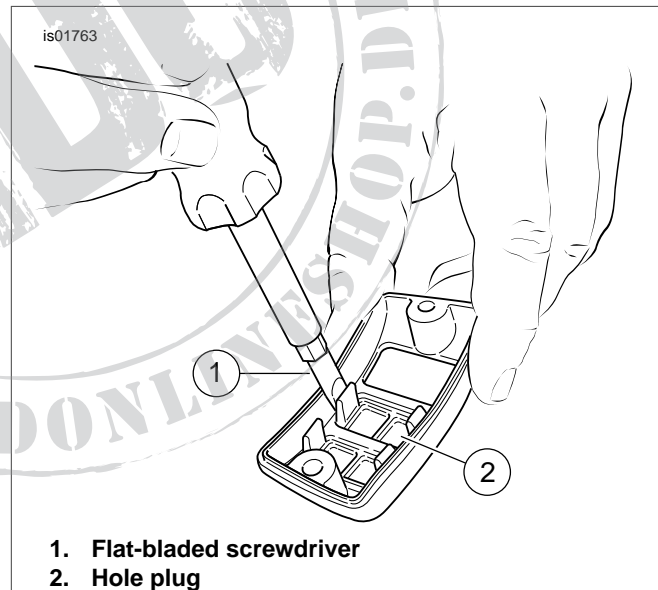

Figure 5. Remove/Reposition Hole Plug
8. See Figure 5. Using a flat-bladed screwdriver (1), carefully compress the tab and remove the hole plug (2) from the housing cover. If relocating the hole plug, snap the plug in the desired new location.